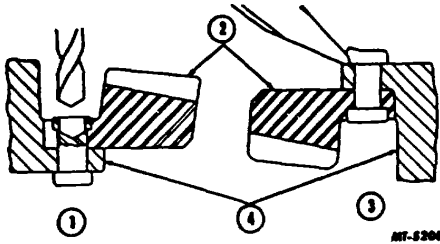

Fig. 3. Drive Gear Rivet Removal
11. If necessary to remove drive gear, carefully center punch each rivet head on drive gear side and drill through the rivet head with a drill .79 mm (1/32) smaller than rivet body (Fig. 3). Use a punch to press out remaining portion of rivet. Never use chisel to cut off rivet heads or damage to case might result.